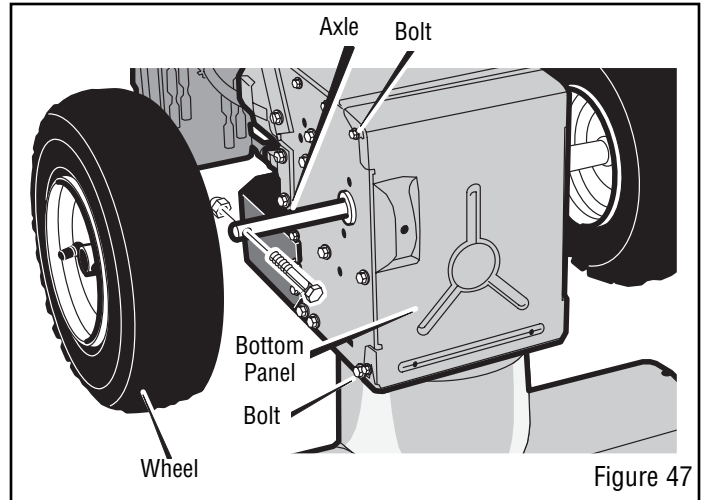

Figure 47
3. Remove the fasteners that secure the **left wheel**. Remove the **left wheel** from the **axle** (see Figure 47).
18. Install the **bottom panel** (see Figure 47).